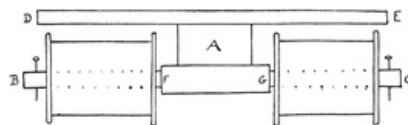

FIG. 197
(1) Small reels make good wheels for trams, motor-cars or trains. They require no sawing. Fig. 197 shows how they are fastened on. A is a block of wood glued and nailed on to the axle, B C, which is made of stripwood,  $\frac{1}{4} \times \frac{1}{4}$  inch, or  $\frac{1}{2} \times \frac{1}{4}$  inch; the ends, F B and G C, are rounded so that the reels can revolve easily on them. The bottom of the car is glued to the block. The reels can be placed quite under the bottom of the car, as in diagram, or they can project. For a train the wheels should be placed underneath.
(2) Large reels may be sawn into several thicknesses. These make excellent wheels, but are very difficult to saw even with a mitre block. It is hard to hold them steady and there is some danger of the children sawing their fingers.
(3) Broom handles, round rods, etc., are easily sawn up and make excellent wheels. Holes have to be drilled through them and enlarged with round file for the axle, or a hole the right size can be made at once with the brace and bit. (For use of which see Part II.)
(4) Wheels can be made with the brace and centre-bit. The way for the centre-bit must be prepared by using a small-sized pin-bit. The wood must be laid perfectly flat, the brace and bit held perfectly perpendicular, only a little pressure applied upon the knob and the crank turned slowly. The boring must be done half way through from each side of the wood, and this will liberate a disc of wood 1 inch in diameter, or  $1\frac{1}{4}$  inch, according to the size of the centre-bit.
(5) There is a little instrument sold called a circle-cutter (price, 2s.), designed for cutting small circular pieces of wood from satin walnut board. It is so constructed that it will cut circles of any size up to 5 inches in diameter. This, however, is difficult for children to use.
(6) For large wheels or table-tops a circle can be drawn in a square, the corners sawn off, the obtuse corners sawn off again and then filed perfectly round. This is rather a laborious method, but quite successful. Holes can be made in the centre with a bradawl and enlarged with a round file.
(8) The fret-saw (see Part II) is very useful for making wheels.
(9) The wooden tops of gloy bottles make very good wheels indeed (especially for motor-cars). They are ready for use at once, as they have a hole in the centre. Also the tin tops of Le Page's liquid glue make excellent small wheels; a hole can easily be made in the centre by means of a hammer and a long nail or the pin stopper of a tube of seccotine.
(10) Wheels can be bought. A sheet of four wheels costs a penny. This is the least satisfactory course.
Of the various ways of making wheels described above, the methods best suited to little ones are (1), (3), (6), (7), and (9). The axles should be narrow strips of wood, with the ends rounded. Round rods do not make good axles, because they cannot be fastened securely to the bottom of the vehicle, the nailing being a difficult matter for the children. In fastening the axles to vans, carts, etc., there is no need for block A (Fig. 197); the latter is only introduced when the wheels have to be under the vehicle; in other cases the axle can be glued and nailed directly to the bottom.